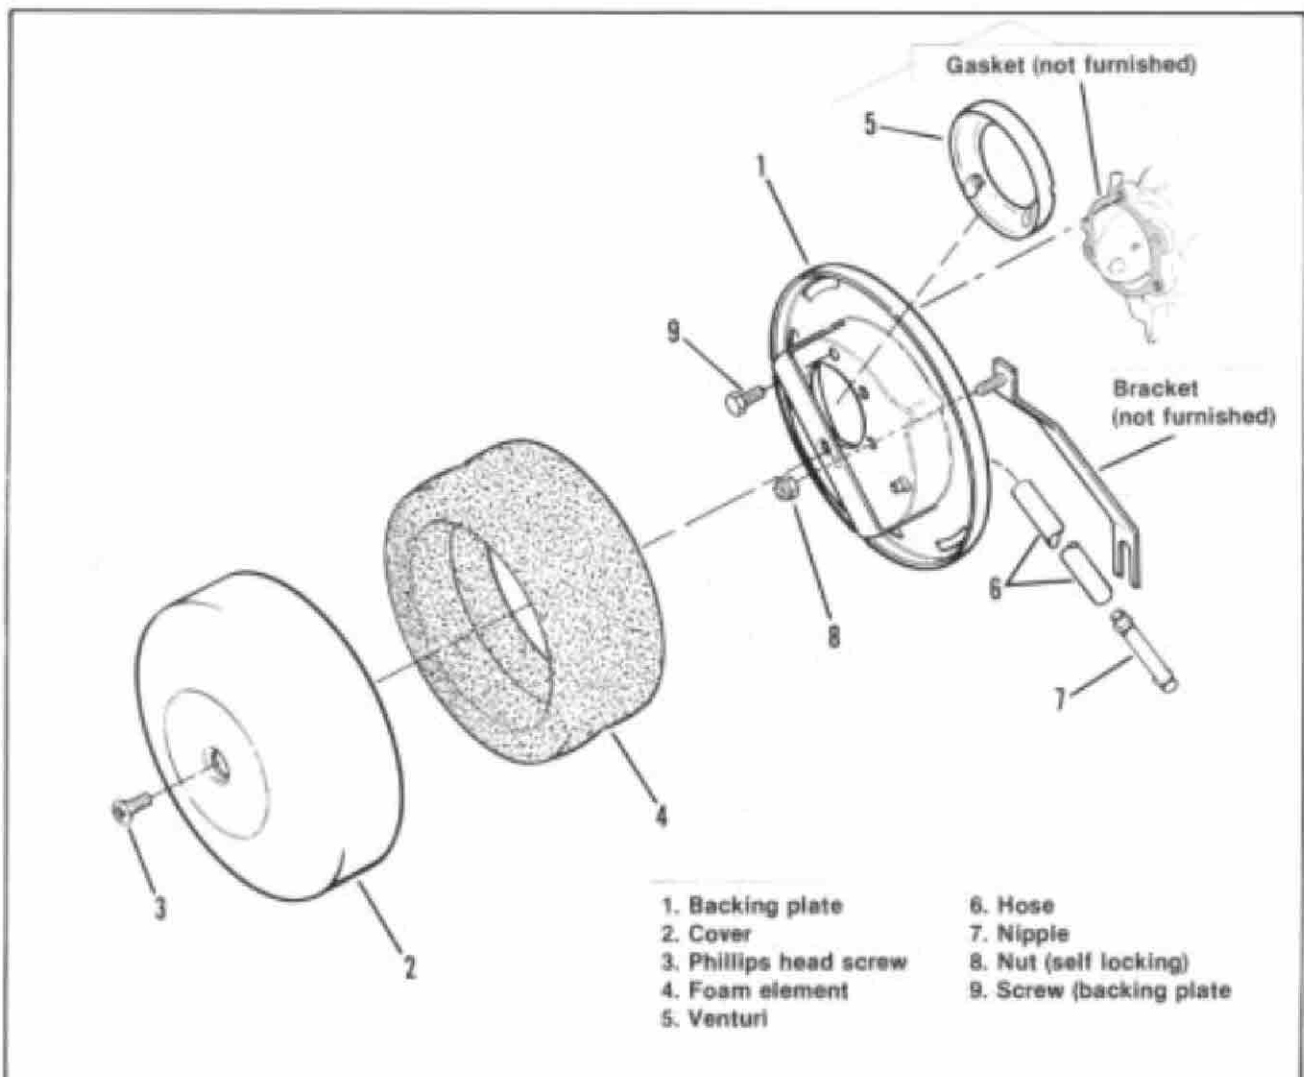
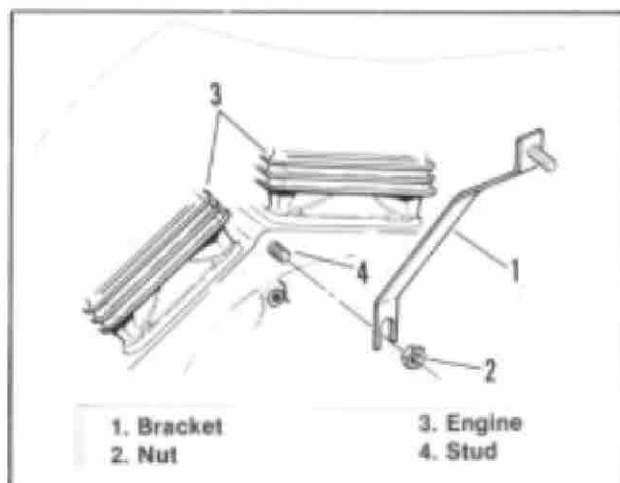

Figure 1. Air Cleaner Assembly
Figure 3. Bracket Mounting — Shovelhead & Evolution™
1. See Figure 1. Disconnect crankcase vent hose at air cleaner fitting if so equipped. Remove existing air cleaner and air cleaner backing plate. If backing plate gasket on face of carburetor is damaged, replace with a new one.
2. Place new backing plate (1) against carburetor face. Position venturi (5) against backing plate (1) and align all holes. Insert socket head screws (9) through venturi (5), through backing plate (1) and thread into tapped holes in carburetor flange. Tighten screws (9) to 7-10 ft-lbs torque.
B. Evolution™ and Shovelhead Engines — See Figure 3. Loosen nut (2) enough to accommodate slotted end of bracket (1). Slide slotted end of bracket (1) over stud (4), insert stud at upper end of bracket (1), through mounting hole in backing plate from the engine side and thread on nut (8), Figure 1. Tighten nut (8) to a torque of 8-10 ft-lbs and nut (2) to a torque of 12-15 ft-lbs.
- See Figure 1. Place cover (2) in position over backing plate (1). Insert phillips head screw (3) through cover (2) and thread into tapped hole at center of backing plate. Tighten screw (3) securely.